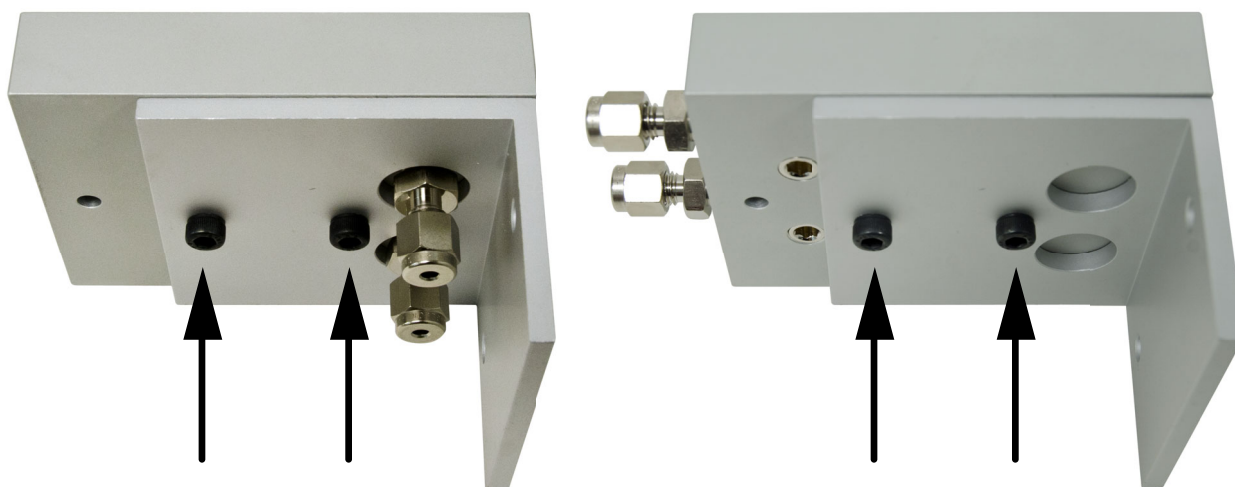

Figure 10. Hex screws installed
- b Using your hand, install the hex screws from the bottom-up until they are finger tight (**Figure 10**).